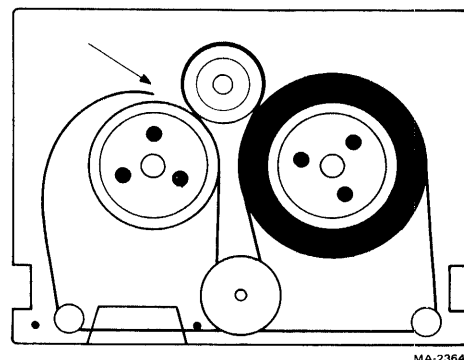

Figure 2-11 Threading the Plastic-Base Cartridge
1. Pull several centimeters (a few inches) of tape off the supply hub and through the tape guides (Figure 2-11).